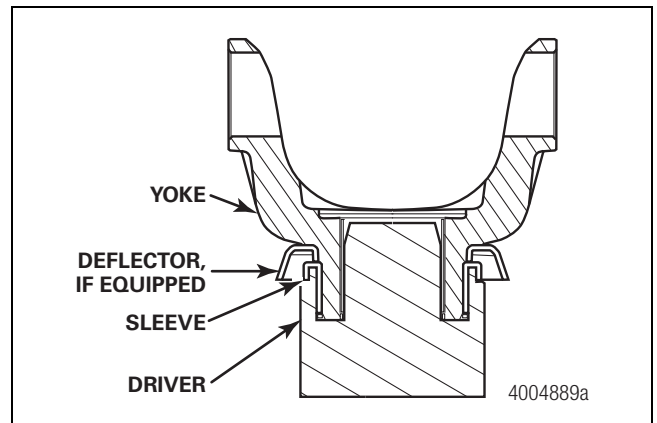

Figure 17
3. Install the deflector, if equipped, onto the yoke. You must install the deflector before you install the sleeve onto the yoke. Figure 17.